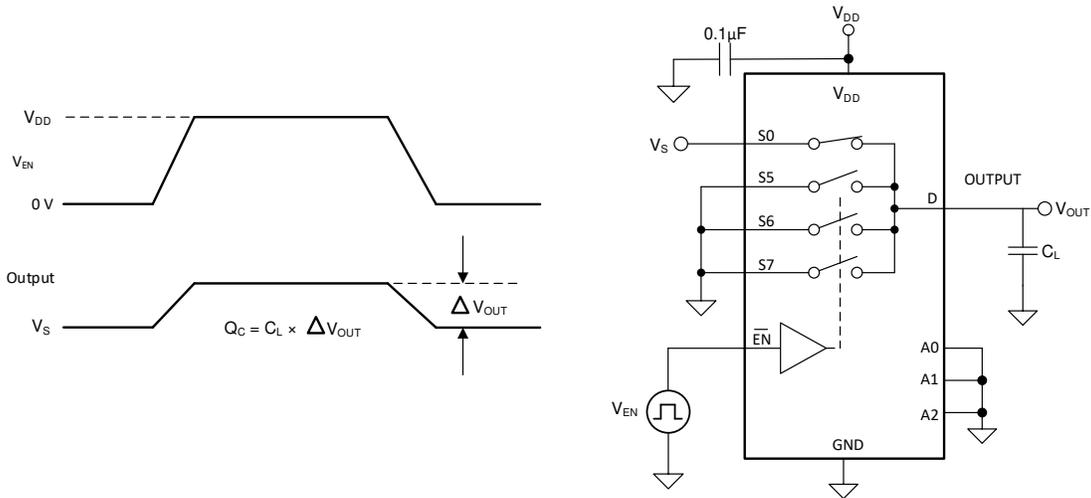

Figure 8-7. Charge-Injection Measurement Setup
The TMUX1308 and TMUX1309 device have a transmission-gate topology. Any mismatch in capacitance between the NMOS and PMOS transistors results in a charge injected into the drain or source during the falling or rising edge of the gate signal. The amount of charge injected into the source or drain of the device is known as charge injection, and is denoted by the symbol  $Q_C$ . Figure 8-7 shows the setup used to measure charge injection from source (Sx) to drain (D).